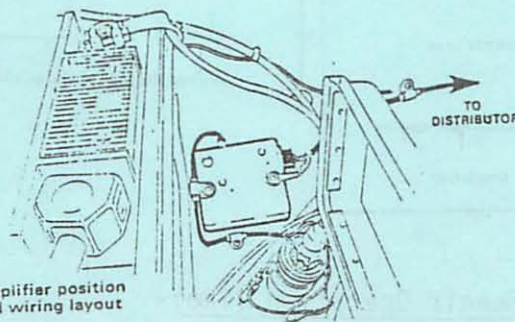

Fig. 3 Amplifier position
1. Position the amplifier on the bulkhead over the passenger side footwell (see Figure 3) ensuring the socket for the distributor pick-up lead faces towards the engine.
4. Route the amplifier to distributor leads along the bulkhead and connect them to the distributor flyleads (see Figure 3). Secure the leads with a harness clip attached to the bolt under the airscoop fixing lug.
5. Route the amplifier to coil leads through the harness clip on the amplifier fixing bolt and down to the coil. (see Figure 3). Connect the white lead to the coil "+" (positive) terminal (if necessary, fit an additional fixed terminal to the stud) and the white/black lead to the coil "-" (negative) terminal.
6. Neatly fasten the white/black leads to the bulkhead (see Figure 3).